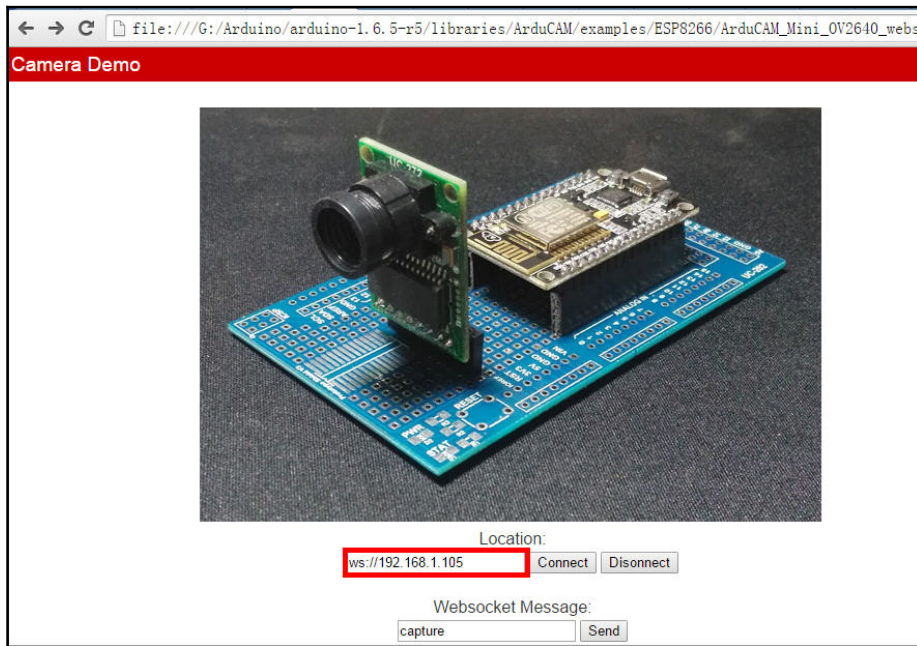

Figure 8.16: Inserting server URL
13. Type the IP address of the web socket marked in the red box as shown in the following picture (Figure 8.16). You can find the IP address of your Feather HUZZAH ESP8266 with your Wi-Fi router's admin portal. You can also assign a dynamic or static IP address to ESP8266 with your router: